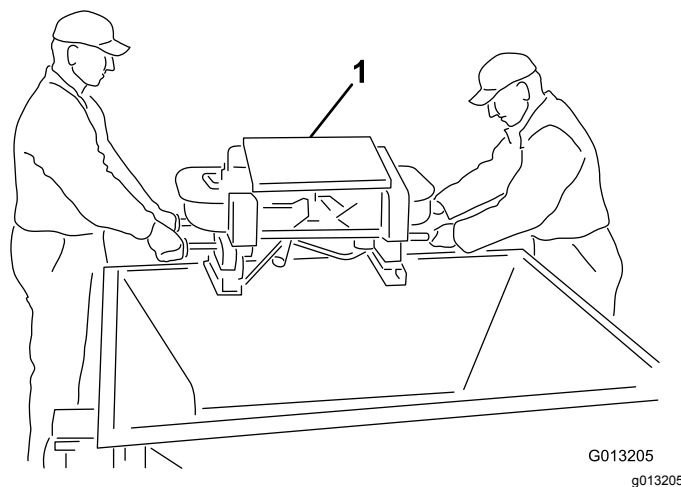

Figure 5
4. Lift the twin spinner out of the hopper using the twin spinner outer grab handles and place the twin spinner unit on the ground (Figure 5).